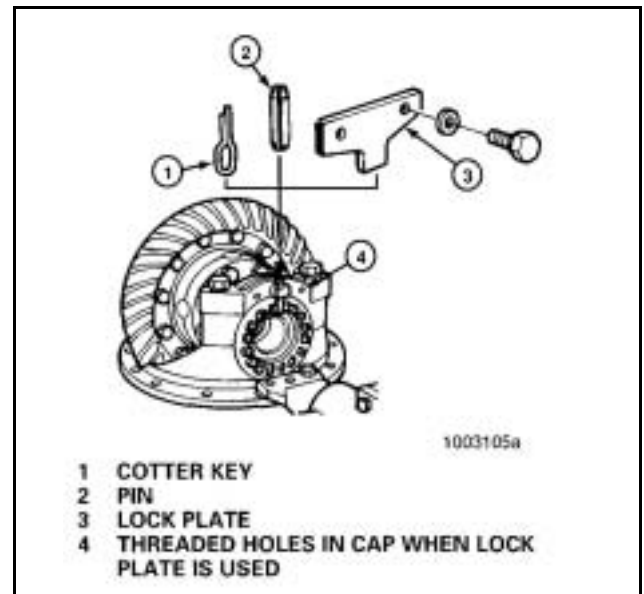

Figure 123
- a. **Cotter Keys*** – Install cotter keys between lugs of the adjusting ring and through the boss of the bearing cap. Bend the two ends of the cotter key around the boss. **Figure 123.**
- b. **Pins*** – Install pin through boss of the bearing cap until the pin is between lugs of the adjusting ring. Use a drift and hammer to install the pin. **Figure 123.**
- c. **Lock Plates*** – Install lock plate on bearing cap so that the tab is between lugs of the adjusting ring. Install the two capscrews that hold the lock plate to the bearing cap. Tighten the capscrews to correct torque value. Refer to **Table J.** **Figure 123.**